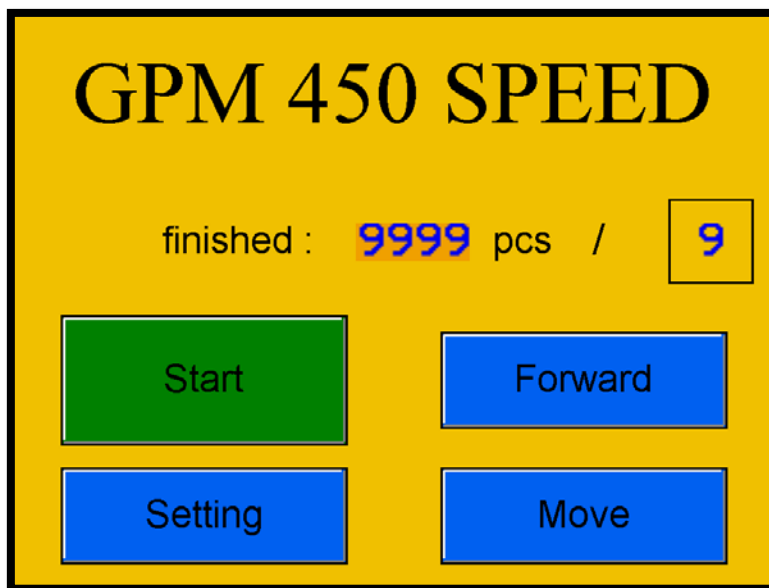

Fig. 20: The Main screen
By pressing the "**Setting**" icon on the main screen, the following menu is displayed (fig. 20).
Adjust the feeding table (1) according to the instructions in Section 7.2. There must be minimum gap between the side guides and the pile of paper. The machine is constructed for pile of paper 50 mm high. Press the table release (15). Paper is pushed into the feeding head (10). Lower the paper brake (7) onto the end of paper. Adjust the distance of the back stop (11) on the delivery table (2) according to the size of the sheet. Press the "**Start**" icon on the screen (fig. 20). The machine starts up and the working cycle screen is displayed (fig. 27). There are a "**Stop**" icon and information about the number of processed sheets displayed on the screen.
The feeding wheels (29) start to feed the individual sheets into the machine. Load another pile of paper on the feeding table only after the machine processes the last paper, which automatically ends the working cycle and the main screen is displayed (fig. 20). The working cycle can be interrupted manually by pressing the "**Stop**" icon. Please note that at this moment another sheet has already been fed into the machine. When the machine is started again, this sheet goes through the machine without being processed. In case of trouble the big red "**STOP**" button (8) on the main panel can be used to stop the machine.